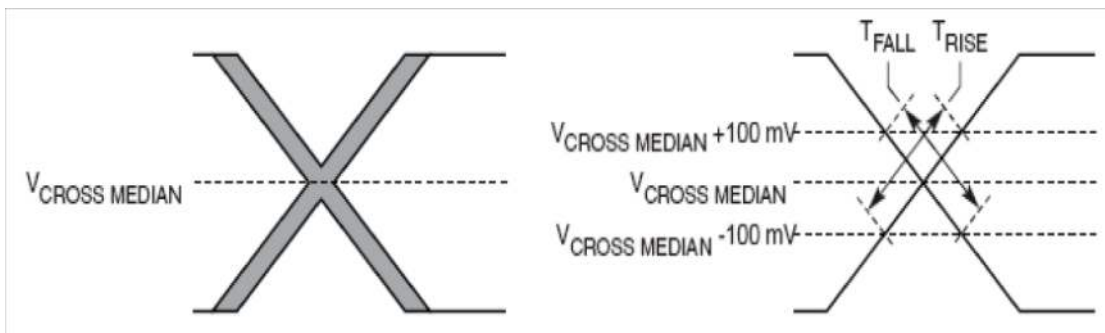

Figure 43. Single-Ended Measurement Points for Rise and Fall Time Matching
- Matching applies to rising edge for SD\_REF\_CLKn and falling edge rate for SD\_REF\_CLKn\_B. It is measured using a 200 mV window centered on the median cross point where SD\_REF\_CLKn rising meets SD\_REF\_CLKn\_B falling. The median cross point is used to calculate the voltage thresholds that the oscilloscope uses for the edge rate calculations. The rising edge rate of SD\_REF\_CLKn should be compared to the falling edge rate of SD\_REF\_CLKn\_B; the maximum allowed difference should not exceed 20% of the slowest edge rate. See Figure 43.